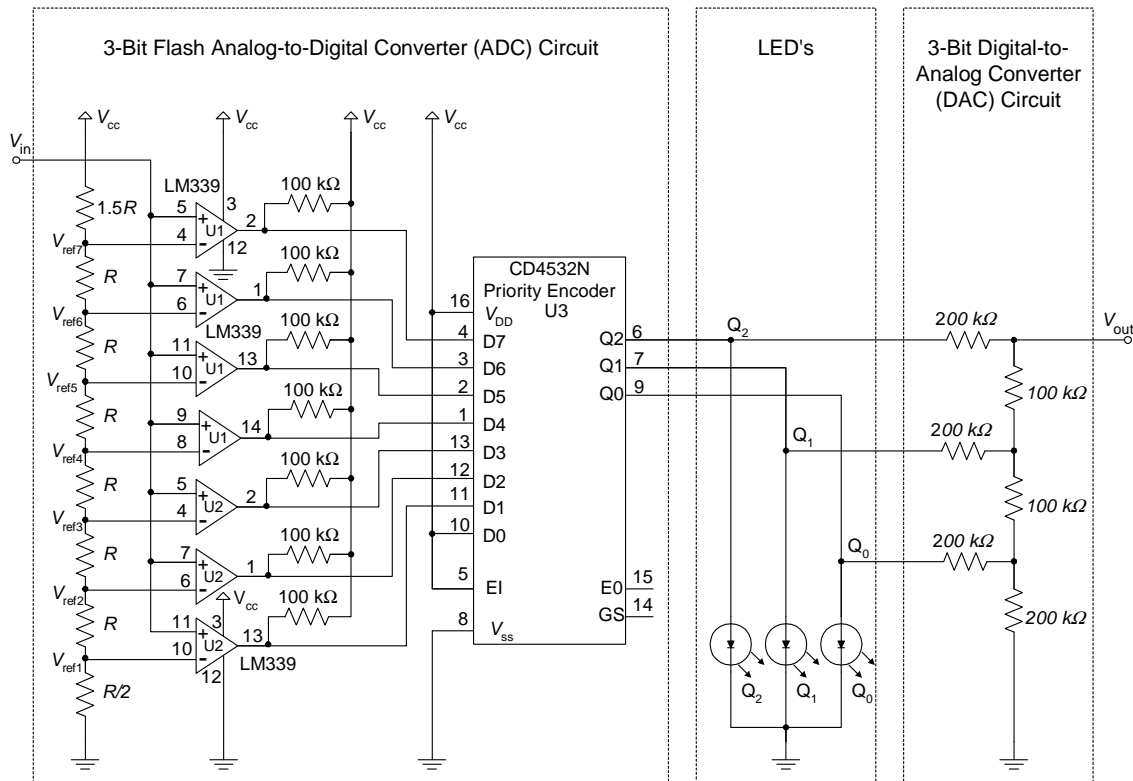

Figure 2. 3-Bit Flash ADC and 3-Bit DAC Circuits.
In the 3-bit flash ADC circuit shown on the left side of Figure 2, there are seven comparators each of which compares the input voltage V_{in} to a different reference voltage, where the reference voltages are labeled V_{ref1} to V_{ref7} .
Pre-lab Assignment 1: Calculate the values of the reference node voltages V_{ref1} through V_{ref7} in the ADC circuit in Figure 2 if the power supply voltage is set to $V_{cc} = 8.0$ Volts and the resistors are each set to an arbitrary value R , except for the resistor at the top of the ADC circuit whose value is $1.5R$ and the resistor at the bottom whose value is $R/2$. Assume that **no current** flows into the LM339 comparators' inputs. Do the values of V_{ref1} through V_{ref7} in Figure 2 depend on the value of R ?
In the 3-bit flash ADC circuit in Figure 2, the first comparator (the one at the **bottom** of the ADC circuit) compares the input voltage V_{in} to the reference voltage V_{ref1} , and if V_{in} is greater than V_{ref1} this comparator's output is $V_o = V_{cc}$ (logic 1), otherwise it is $V_o = 0$ (logic 0). So if $V_{in} < V_{ref1}$, for example, then the first comparator will output a logic 0. In addition, since the values of V_{ref1} through V_{ref7} increase (V_{ref7} being the largest reference voltage), all the comparators will output a logic 0 if $V_{in} < V_{ref1}$.
In the ADC circuit shown in Figure 2, the priority encoder inputs D_1 through D_7 are supplied by the seven comparators, whereas the priority encoder input D_0 is connected directly to V_{cc} which always generates a logic 1. If all the priority encoder inputs D_1 through D_7 are logic 0, the priority encoder would output the binary number $(000)_2$